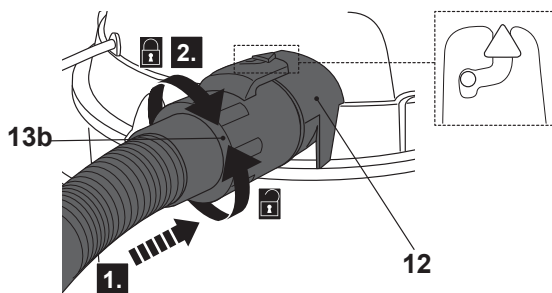

Fig. 12
- > Align the arrow on the hose connector (13b) with the tab on the outer opening of the air outlet (12) and slide the hose connector onto the air outlet (Fig. 12, step 1).
- > Rotate the hose connector (13b) clockwise and ensure the connection is properly secured (Fig. 12, step 2).